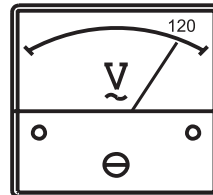

Figure 48. Voltmeter
6. The generator's AC voltmeter (Figure 48) will display the generator's output in **VOLTS**.